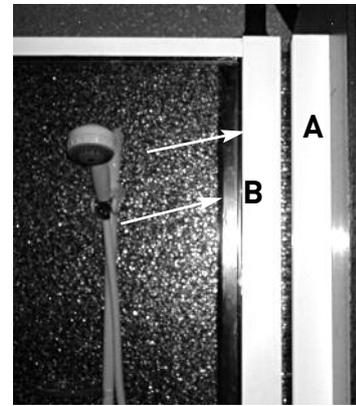

Figure a6
6. Once the Hinged Door (B) is sitting fully inside one Wall Profile (A) (**Stage 5**), slide the Hinged Door following the arrows (**Figure a6**) into the remaining Wall Profile.